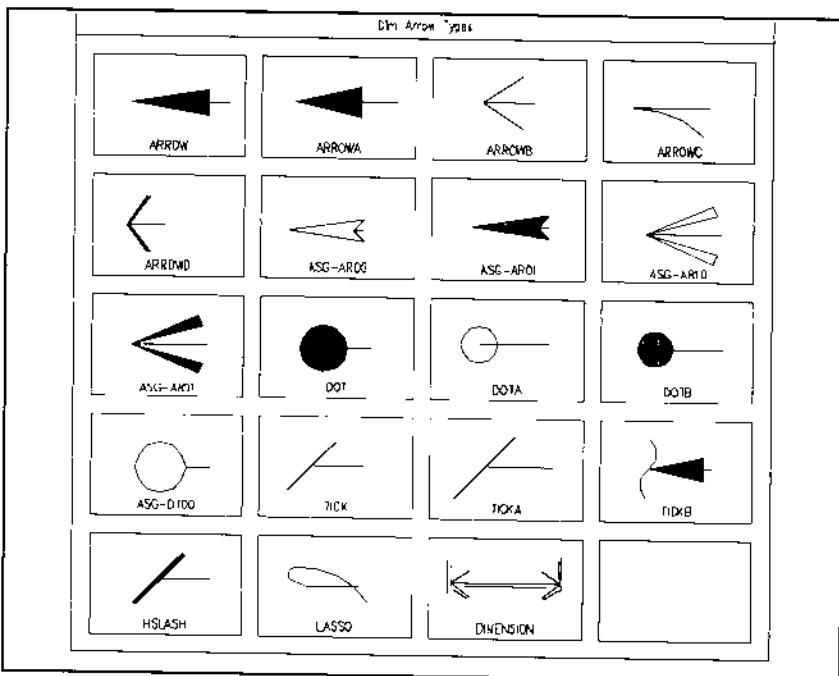
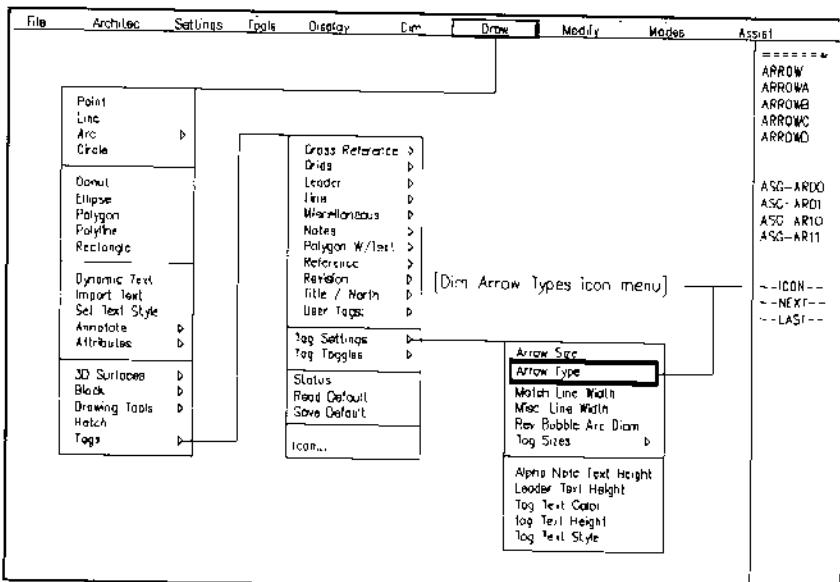

Figure 26.
Figure 27.
1. ASG provides an assortment of Dim Arrow Types as shown in Figure 26. Choosing Arrow Type from Tag Settings under the Tags menu, as shown in Figure 27, opens the Dim Arrow Types icon menu. The Dim Arrow Types icon menu is also available from the side screen menu.